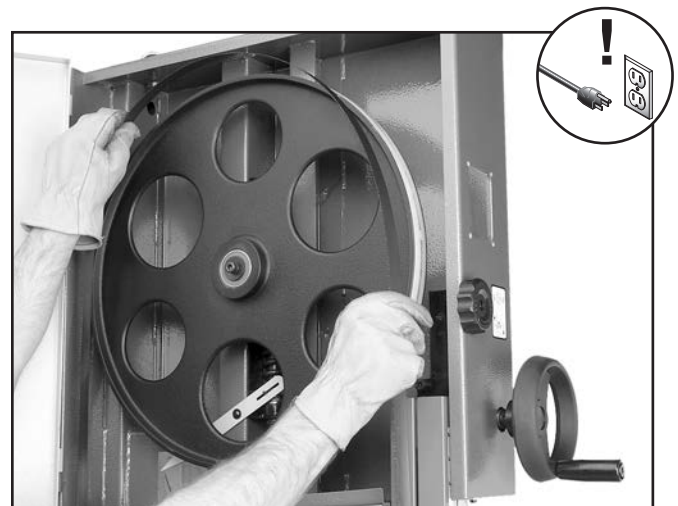

Figure 75. Placing blade on the wheels.
3. Slip the blade through the blade guides, and mount it on the upper and lower wheels (see **Figure 75**).